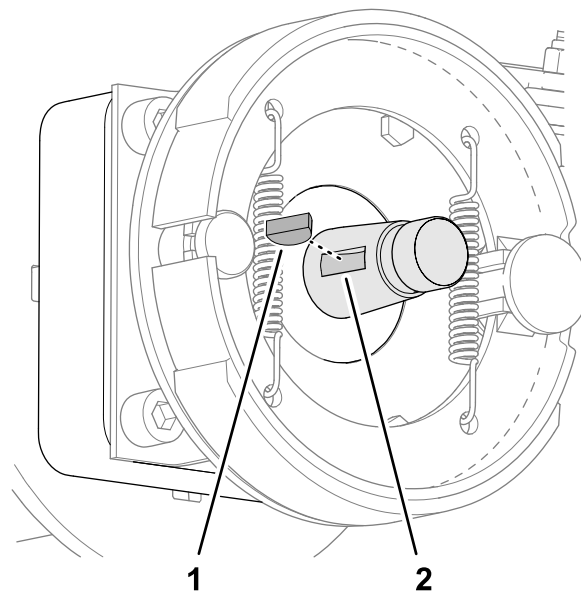

Figure 85
- Insert the woodruff key into the groove of the wheel-motor shaft (Figure 85).